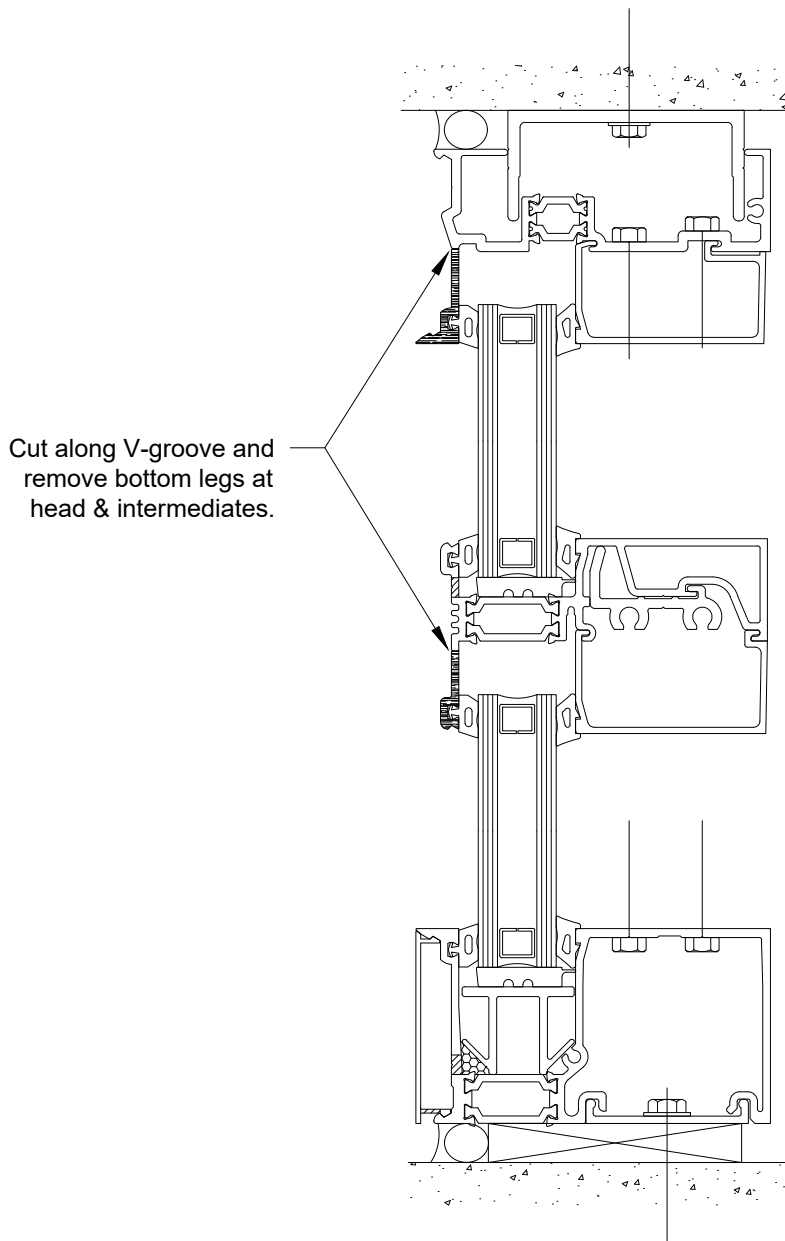

Figure 19
B.3 The bottom glazing leg of the horizontal member above removed lite must be cut away. Carefully cut along the V-groove at the face of leg. **SEE FIGURE 19.**